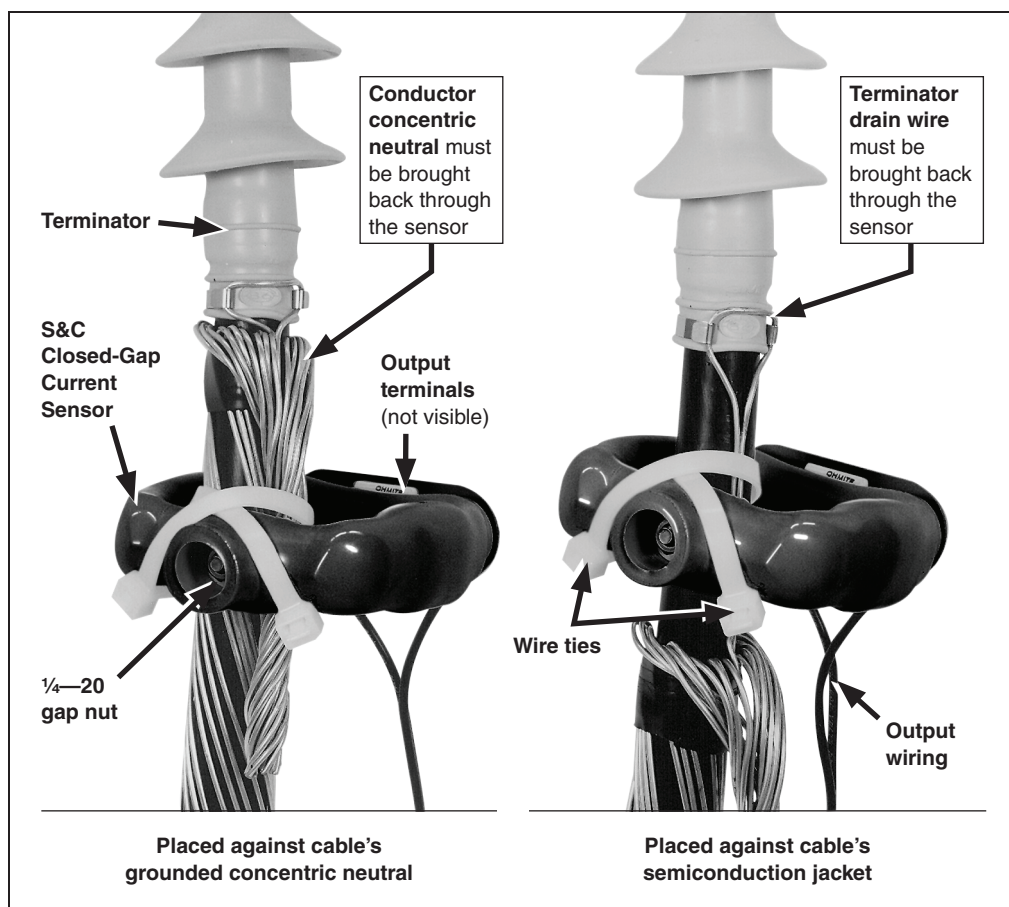

Figure 3. Typical methods for attaching S&C Closed-Gap Current Sensor to medium-voltage cable.
- STEP 4.** Attach each S&C Closed-Gap Current Sensor to its associated medium-voltage cable using the following procedure. See Figure 3 on page 11.